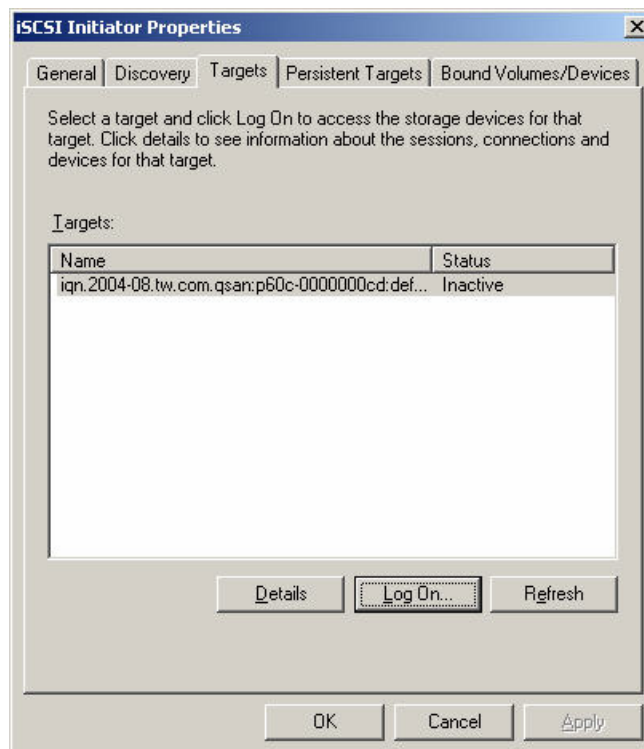

Figure D.4
5. Click “Targets”. Please see Figure D.4.